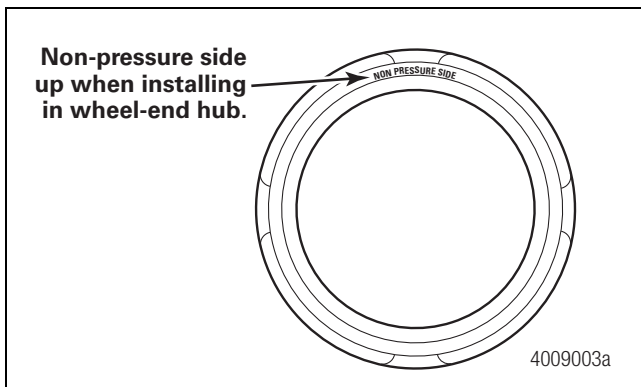
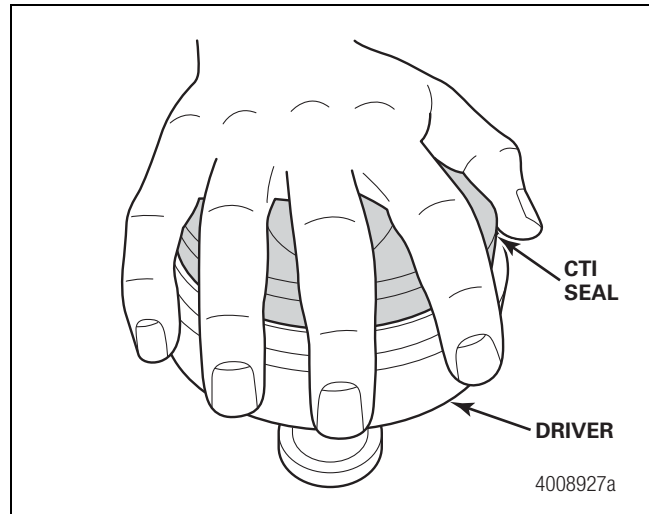

Figure 16.1
Figure 16.2
2. Place the inner CTI seal onto the CTI seal driver, tool 1199-F-4140 with handle 1199-G-4141. The seal must be positioned with the “non-pressure side” label against the face of the driver. Refer to the tool drawings in Section 21. Figure 16.1 and Figure 16.2.
5. Place the outer CTI seal onto the CTI seal driver, tool 1199-F-4140 with handle 1199-G-4141. The seal must be positioned with the “non-pressure side” label against the face of the driver. Refer to the tool drawings in Section 21. Figure 16.1 and Figure 16.2.